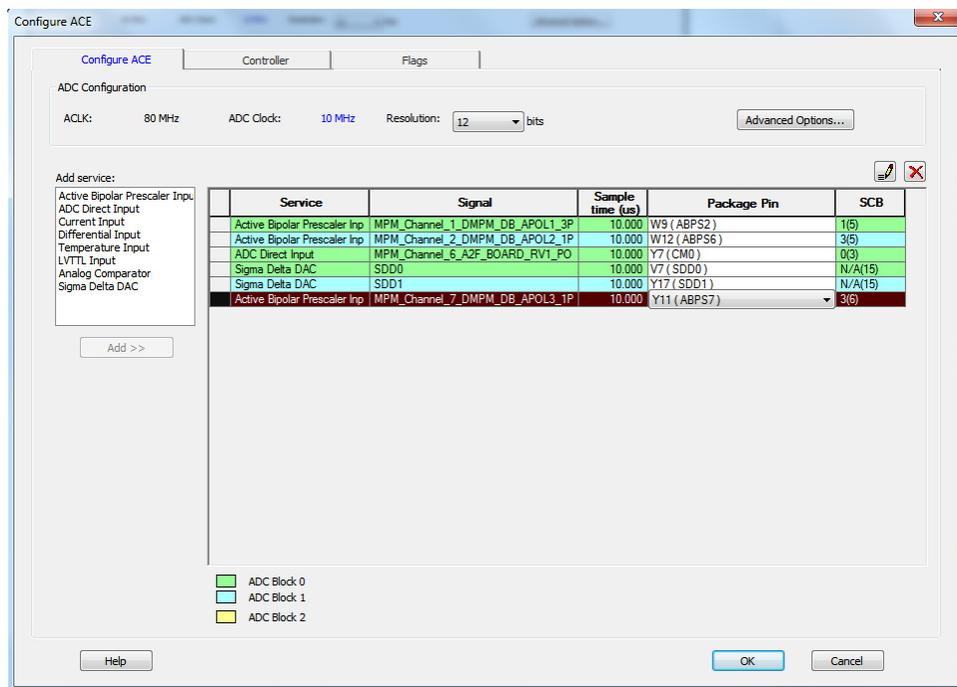

Figure 19 • ACE Configurator After Adding a Service With Package Pin
- Typically, you will know with which analog pad the service needs to be assigned to based on your board design. The package pin assignment also determines which ABPS is selected. The Active Bipolar Prescaler Input (ABPS) service senses the voltage on an input pad and scales it to fit the range of the ADC (nominally 0 V to 2.56 V, if the internal voltage reference, V_{aref}, is used). Currently, assign the value to Y11(ABPS7). The ACE configurator looks like in Figure 19.